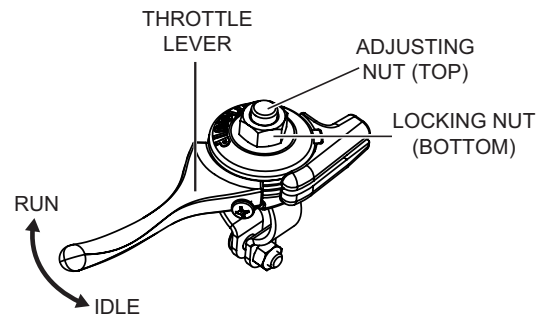

Figure 10. Adjusting Cable Tension
10. Adjust cable tension by loosening the lock nut on the throttle cable receiver (see Figure 10), loosening or tightening the adjusting nut below it, then retightening the lock nut.